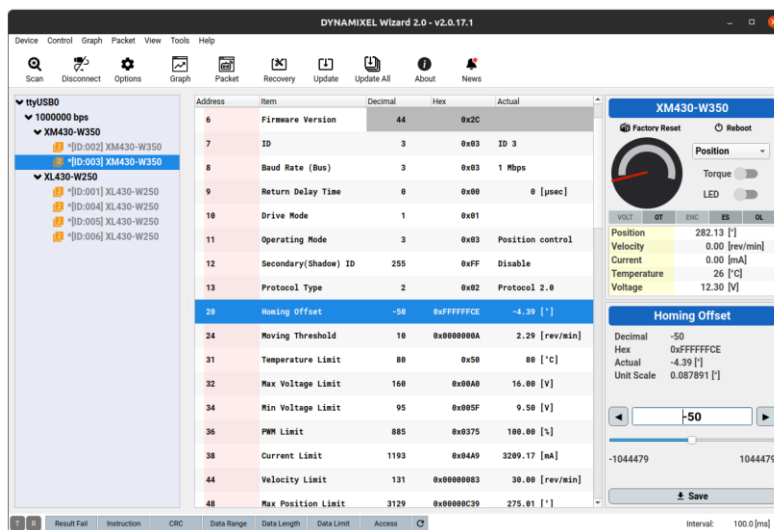

Figure 7.2: "Homing Offset" of the "elbow" joint (ID: 3) of arm 1
- Arm 1, “elbow” joint (ID: 3) adjusted: -50 units, equaling -4.39 degrees, see Figure 7.2